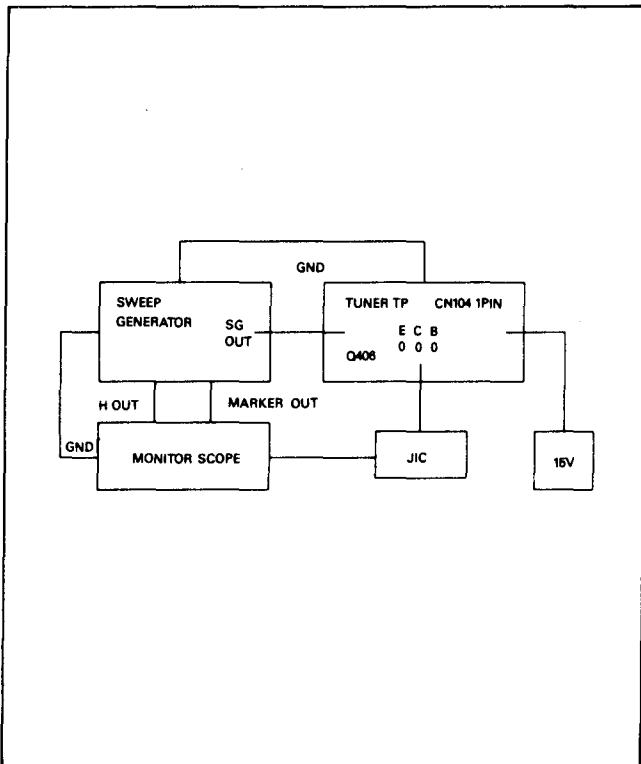

Fig. 12 Composition for TRAP Adjustment.
- 3) Connect the Sweep Generator output to tuner TP within the tuner unit. (Fig. 12)